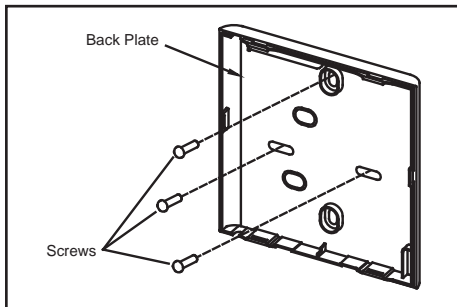

Figure 12. Attach Back Plate to Wall
2. Mount the back plate as appropriate for your application. See figures 12 and 13.